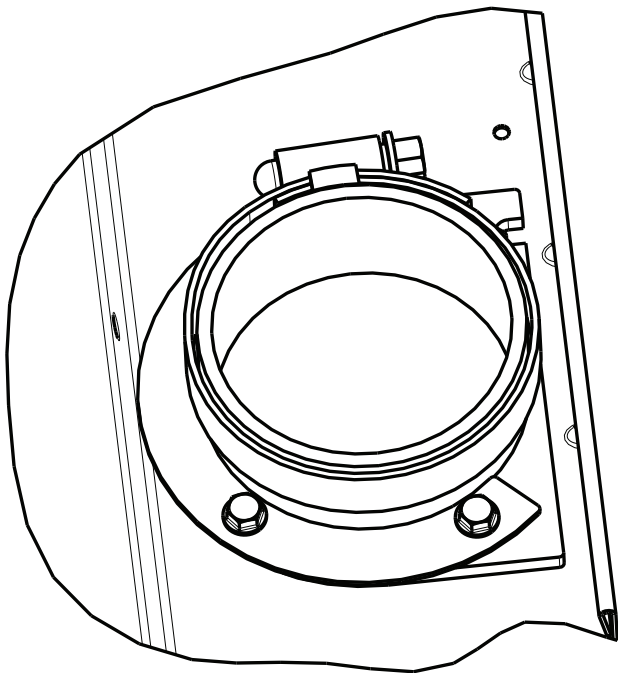

Fig. 8 - Blower Shelf Seal Assembly
6. Construct the blower shelf seal assemblies by placing a clamp and a worm gear hose clamp on each of the blower shelf seals as shown in Fig. 8.
7. Place the blower shelf seal assemblies in the blower compartment, resting the assemblies on the blower shelf with the flat section of the seal facing the blower shelf flange as shown in Fig. 8.